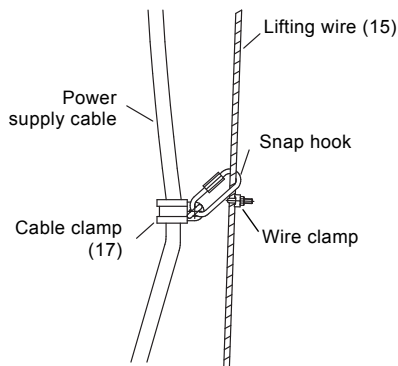

Fig. 13 Attaching the power supply cable to the lifting wire
17. Fix the power supply cable to the lifting wire by means of a cable clamp approx. 0.8 m above the mixer. This will prevent the cable from falling down and becoming entangled in the propeller during operation. Connect the cable clamp to the lifting wire above the wire clamp by means of a snap hook. See fig. 13. Attach the power supply cable to the lifting wire by means of cable clamps placed at 1 m intervals.